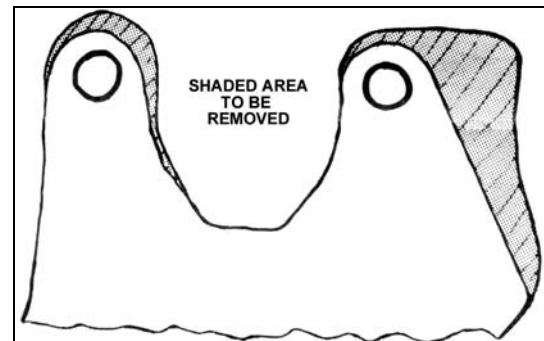

Figure 5
22. Carefully lay intake manifold in place. Applications with air conditioning—it will be necessary to notch the A/C compressor rear bracket (if used) to clear the intake manifold. The shaded areas of the template indicate the amount of material to be removed. **Do not** use washers on the one inch manifold bolts for the A/C brackets. See Figure 5.